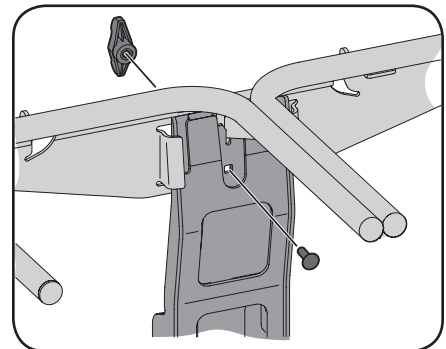

Figure 4-5
5. Install the hanger assembly onto the upright support bracket using a carriage bolt (710-0276) and wing knob (720-04122). See Figure 4-5.